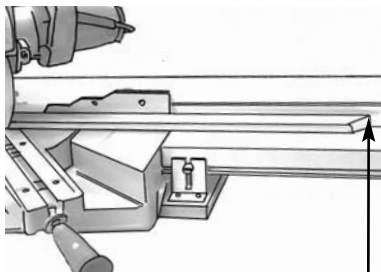

fig. 3 Position the test piece against the blade. Mark the other end.
4. To calibrate the scale, we cut a sample test piece, mitre cut both ends. Cut a length approximately 300mm or 12" long...keep it to a round number. Place this piece into the unit with the saw blade at rest in the right side cut position. Position the piece up against the blade and then make a pencil mark on the back of the system table as in fig 3. Measure along the back edge the length between the saw blade and the pencil mark with a steel rule. This is the measurement which will line up with the same measurement on the scale.